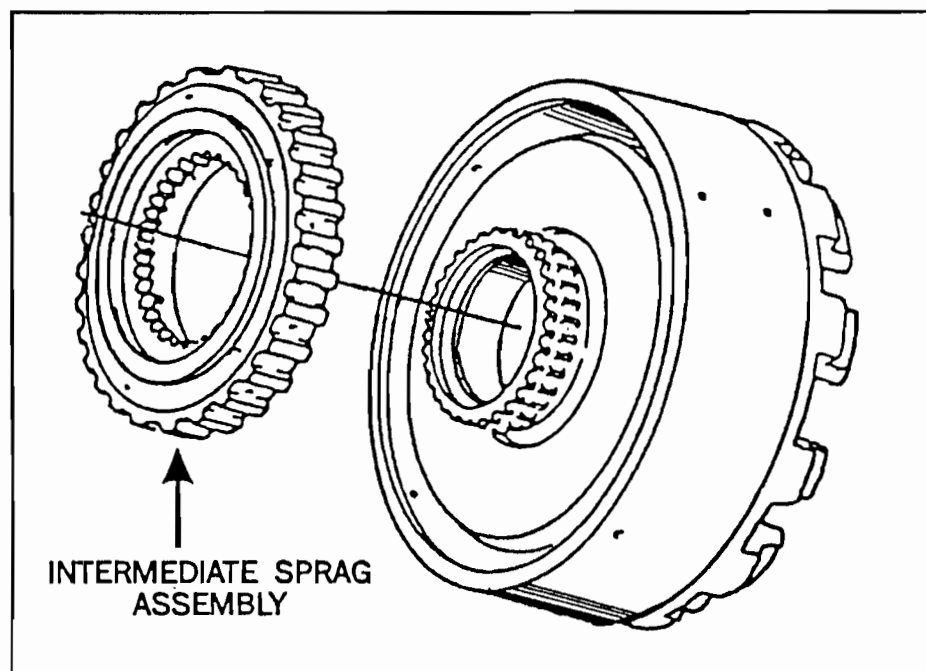

FIGURE 1
- CORRECTION:** REPLACE THE INTERMEDIATE SPRAG ASSEMBLY, REFER TO FIGURE 1 BELOW.